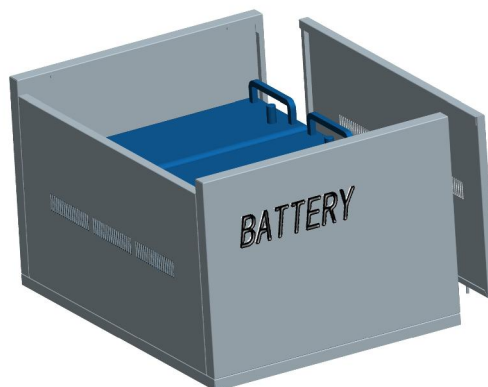

Fig. 3
Step 3. Mount the side board at two sides, as shown in Fig. 3.